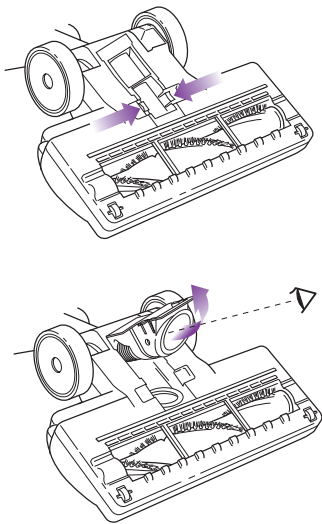

Fig. 36
- Turn motorized floor brush over and detach the hose by squeezing the tabs together and pulling it out. Straighten out the hose and inspect the inside for any blockages. (Fig. 36)